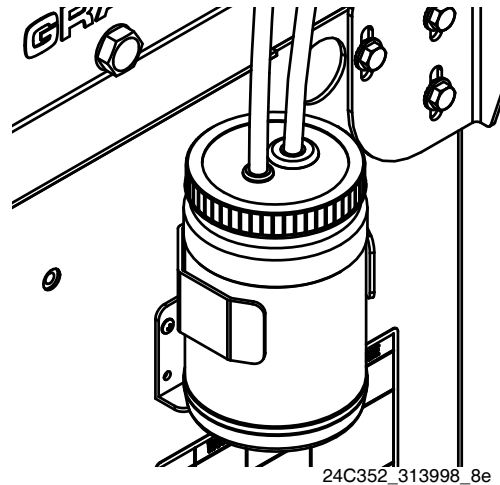

FIG. 19: IsoGuard Select Fluid System
2. Remove fittings from IsoGuard Select fluid cylinder inlet and outlet ports. Keep supply tube (ST), return tube (RT), and leak management tube (LT) connected to the fittings.
4. Lift the IsoGuard Select fluid reservoir (LR) out of the bracket (RB) and remove the container from the cap. Holding the cap over a suitable container, remove the inlet check valve and allow the IsoGuard Select fluid to drain. Reattach the check valve to the inlet hose. See FIG. 19.
7. Thread the reservoir onto the cap assembly and place it in the bracket (RB).
8. Push the supply tube (ST) approximately 1/3 of the way into the reservoir.
9. Push the return tube (RT) into the reservoir until it reaches the bottom.